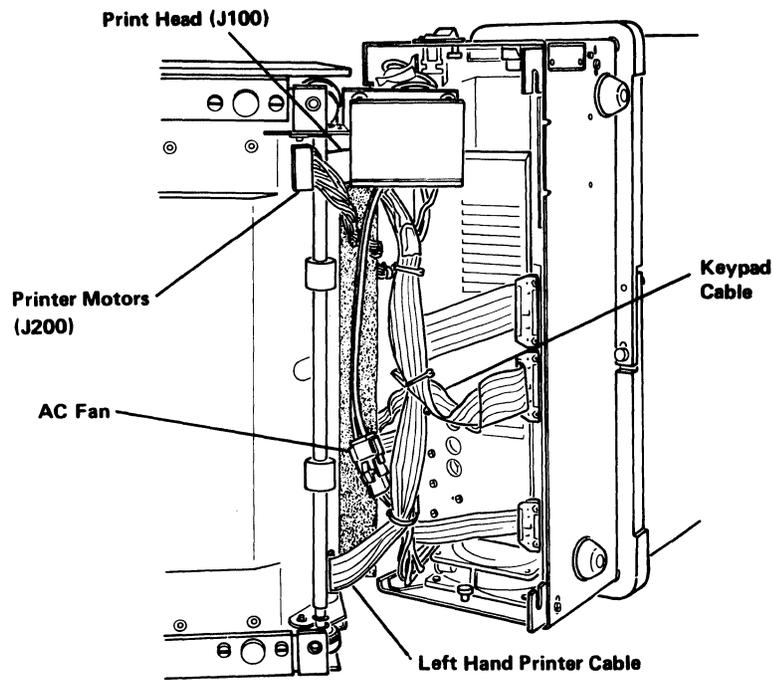

Figure 4-29. Printer/Plotter and Processor Unit (Bottom View).
14. Carefully pull the printer/plotter control board AC power cable out of the processor unit. This is shown in Figure 4-29. DO NOT turn the printer/plotter or processor on its side.
2. Replace the left-hand printer cable connector at the back of the printer/plotter (Refer to Figure 4-29).